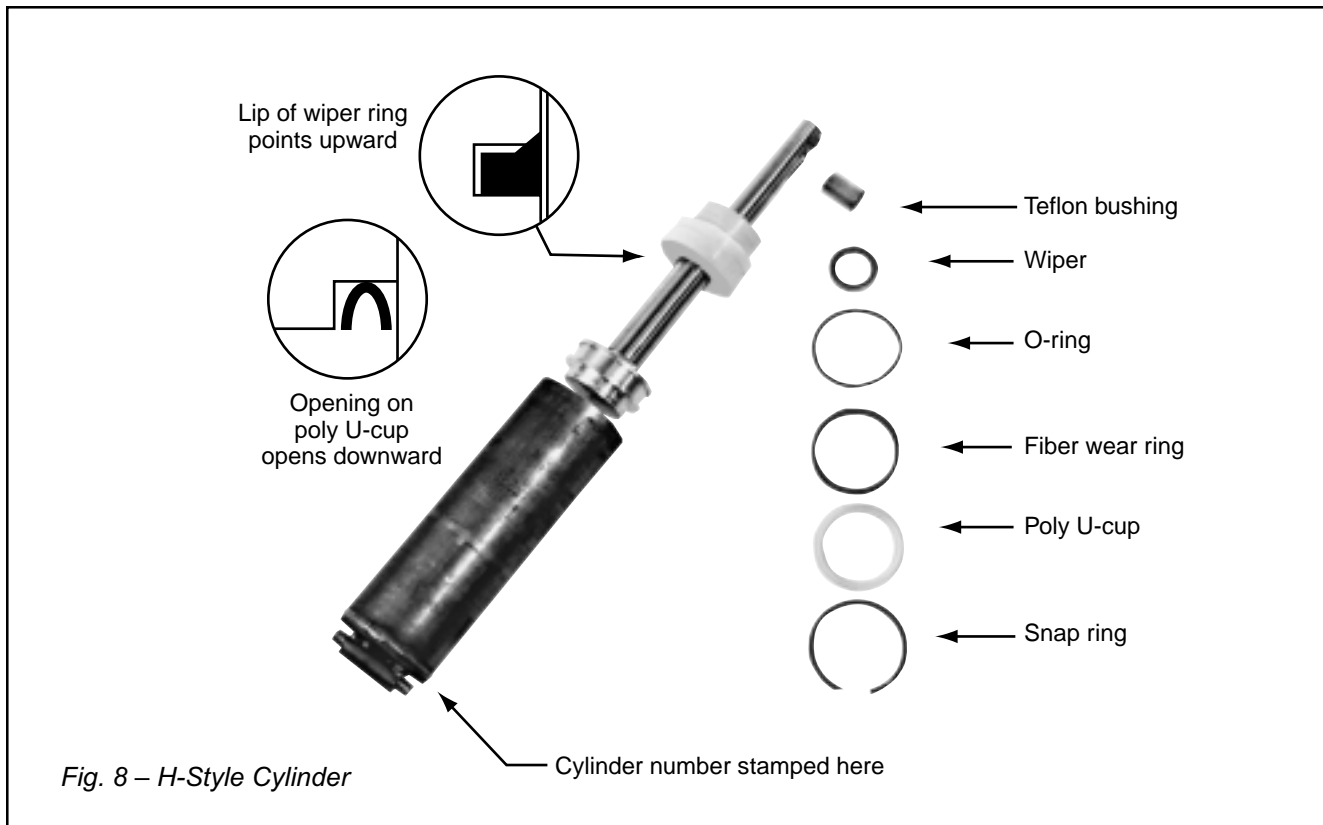

Fig. 8 – H-Style Cylinder
This section will tell you how to repack an "H-style" cylinder, shown in Fig. 8. This type of cylinder is exclusive to Southworth, and repack-ing kits are only available through Southworth. To order a repacking kit, please call the Parts Department at (207) 878-0700 or (800) 743-1000. When ordering, specify the model number and serial number of the lift, and the cylinder number(s), as listed on the base of the cylinder(s).
7. Fig. 8 shows the parts inside a lift cylinder. At the upper end of the cylinder, remove the snap ring. Pull the rod and piston all the way out of the cylinder. This assembly is heavy! Be careful not to drop it as it comes free.
Be careful not to install the wiper backwards. The lip on the wiper should point upwards, as shown in the detail in Fig. 8.
Southworth will gladly supply you with replacement parts for your Southworth lift. Key parts are identified in Figures 8 through 13. With your order, please include the model number and the serial number of the lift. You may find these numbers on the nameplate, which is located on the crossbar at the base of the cylinder(s). When you are ordering parts for a cylinder, also include the cylinder number. This is stamped on the base of the cylinder housing.